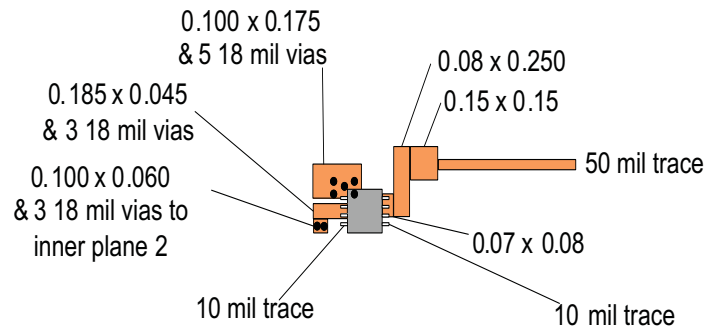

Figure 45. DGK Package PCB Layout Example
While it is recommended that the DGN package PAD be soldered to circuit board copper fill and vias for low thermal impedance, there may be cases where this is not desired. For example, use of routing area under the IC. Some devices are available in packages without the Power Pad (DGK) specifically for this purpose. The θ_{JA} for the DGN package with the pad not soldered and no extra copper, is approximately 141°C/W for 0.5 - A and 1- A rated parts, and 139°C/W for the 1.5 - A and 2- A rated parts. The θ_{JA} for the DGK mounted per Figure 45 is 110.3°C/W. These values may be used in Equation 1 to determine the maximum junction temperature.
- Changed TPS2000C (MSOP-8) status From: Preview To: Active in Table 1 1 - Changed From: PXF1 To: PXFI and From: PSG1 To: PXGI in the DEVICE INFORMATION table MOSP-8 (DGK) column 2 - Changed the θ_{JA} Custom 2 A Rated DGK value from N/A to 110.3 2 - Added Figure 45 - DGK Package PCB Layout Example 17